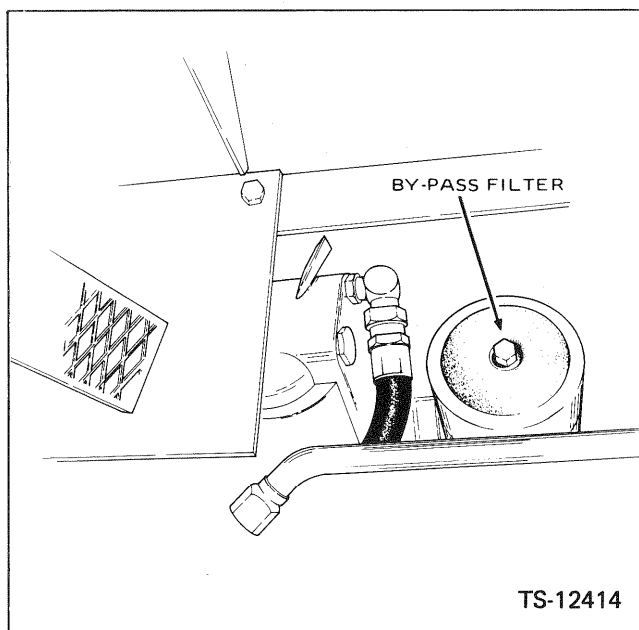

Fig. 6-2 By-Pass Filter Location
**Engine BY-PASS Filter (For Cummins Machines Only) —** Replace the filter element every 200 operating hours and whenever the engine is repaired or overhauled for any reason. Thoroughly clean the filter case before inserting a new element. The By-Pass filter is located next to the Full Flow filter. Fig. 6-2.